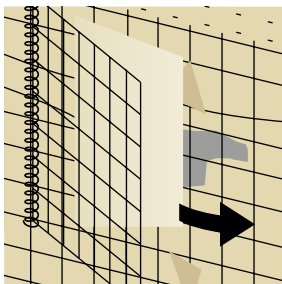

Figure 4
- Place the cut geotextile behind the welded mesh patch ensuring the 6" (150mm) overlap is folded within the welded mesh patch (*Figure 4*).